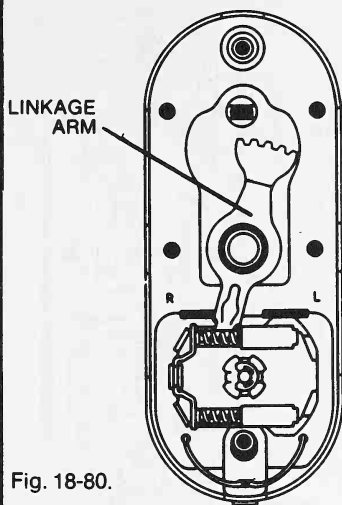

Fig. 18-80.
9. Install the linkage arm. (Fig. 18-80).